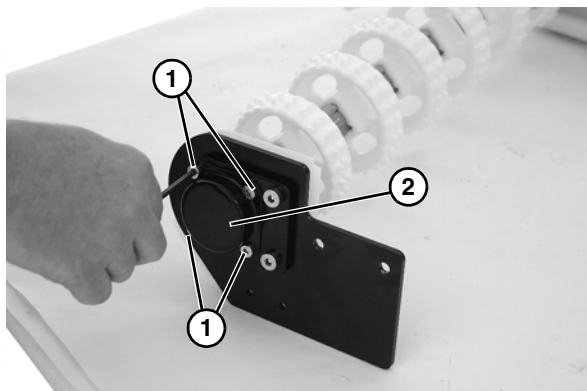

Figure 33
4. Remove the four socket head screws (Figure 33, item 1) and cover (Figure 33, item 2).